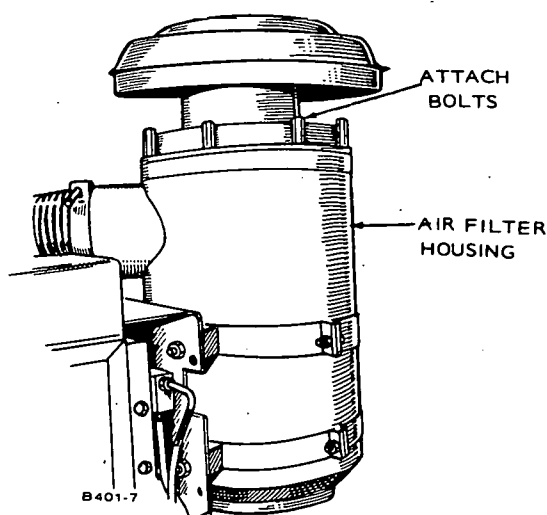

FIGURE 25. AIR FILTER
**Air Filter:** Replace or clean when plugged, or in accordance with service maintenance instructions. To remove filter element loosen eight nuts holding head, lift off head and remove filter element (see Figure 25).